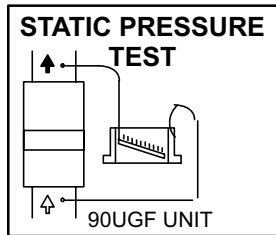

FIGURE 43
- 1 - Measure tap locations as shown in figure 43.